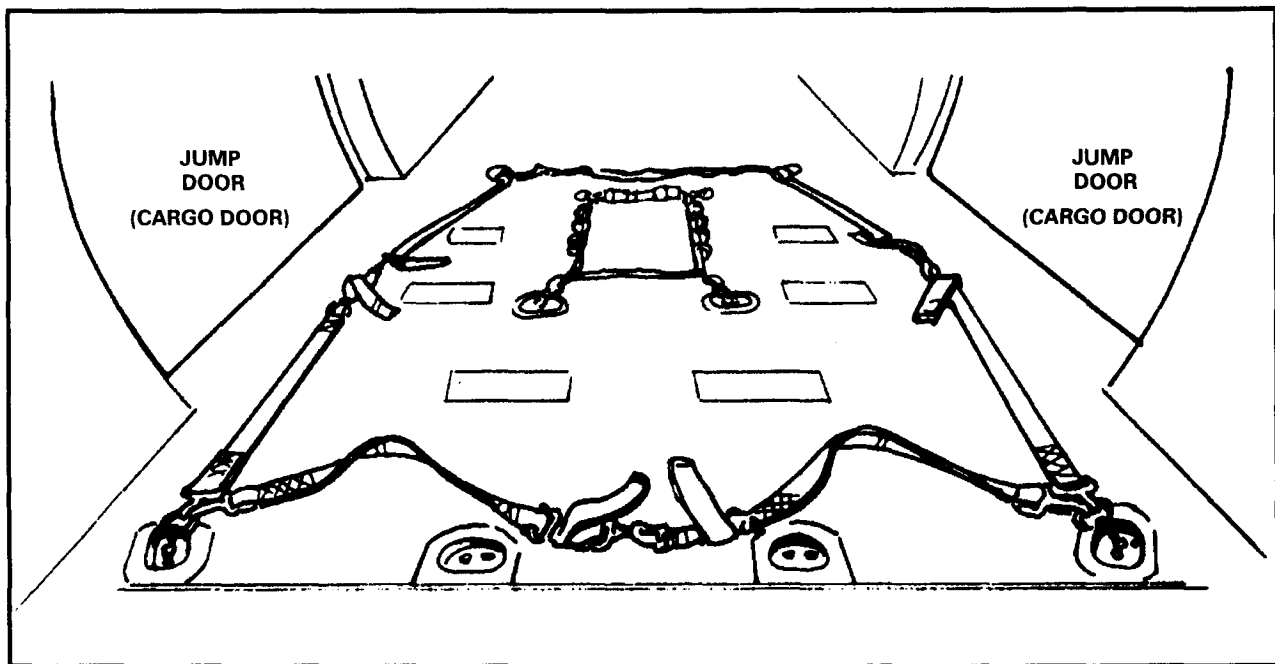

Figure 17-7. UH-60A compartment prepared for jumping.
a. **Preparation.** To prepare the UH-60A for jumping, adhere to the following procedure (Figure 17-7):
- (1) Lock both cargo doors in the open position.